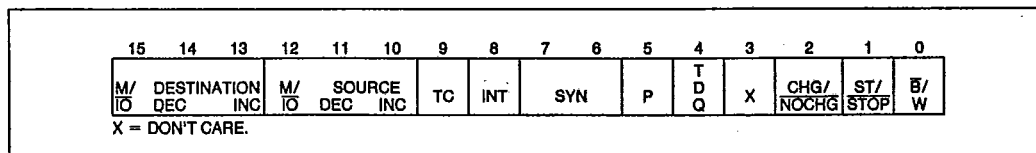

Figure 18. DMA Control Register
words), a 20-bit destination pointer (2 words), a 16-bit Transfer Counter, and a 16-bit Control Word. The format of the DMA Control Blocks is shown in Table 13. The Transfer Count Register (TC) specifies the number of DMA transfers to be performed. Up to 64K byte or word transfers can be performed with automatic termination. The Control Word defines the channel's operation (see Figure 18). All registers may be modified or altered during any DMA activity. Any changes made to these registers will be reflected immediately in DMA operation.